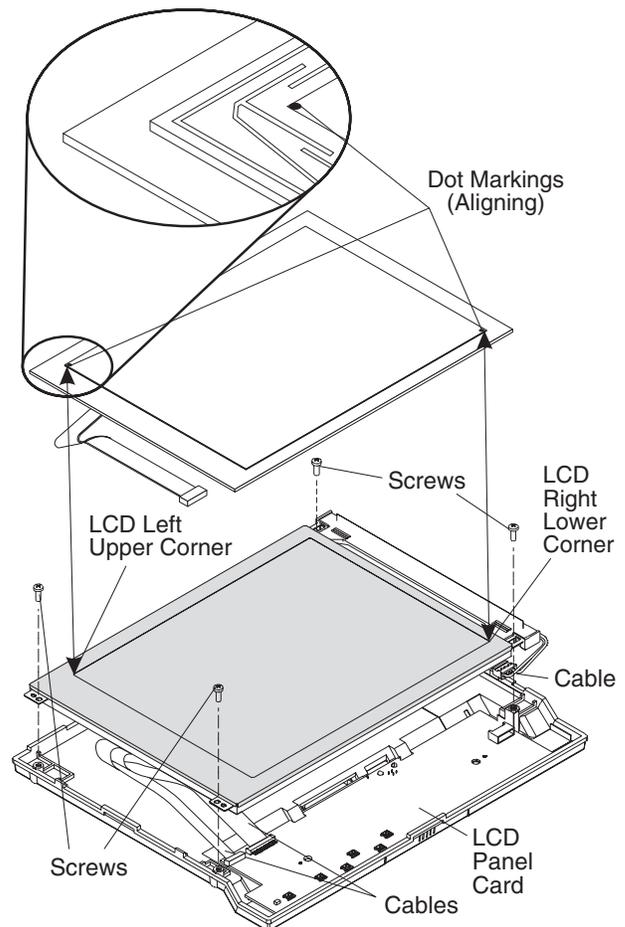

Figure 3-11. Removing the LCD module
- 2 Remove the four screws. See Figure 3-11.
- Make sure that the touch panel scan area is adjusted to the LCD active area. See Figure 3-11.
- 1 Remove the LCD module assembly. See Figure 3-11 on page 3-13.